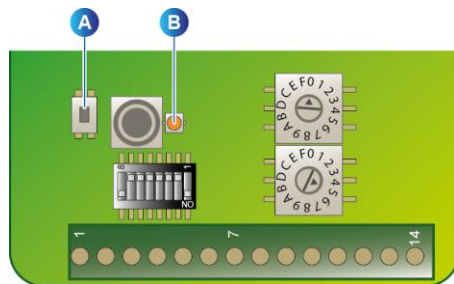

Figure 53: *OLCT 80* wireless card.
4. **On the *OLCT 80* wireless card** (see Figure 53: *OLCT 80* wireless card.) press three times fast on the coupling button marked "A" in the figure.
6. Once all of the wireless codes are coupled, leave coupling mode on the *master* receiver by pressing twice on the button marked "E" in Figure 52. In normal operating mode, the LED (Figure 53, B) of the *OLCT 80*'s wireless card blinks orange, while the LED (Figure 52, F) of the *master* receiver blinks red.